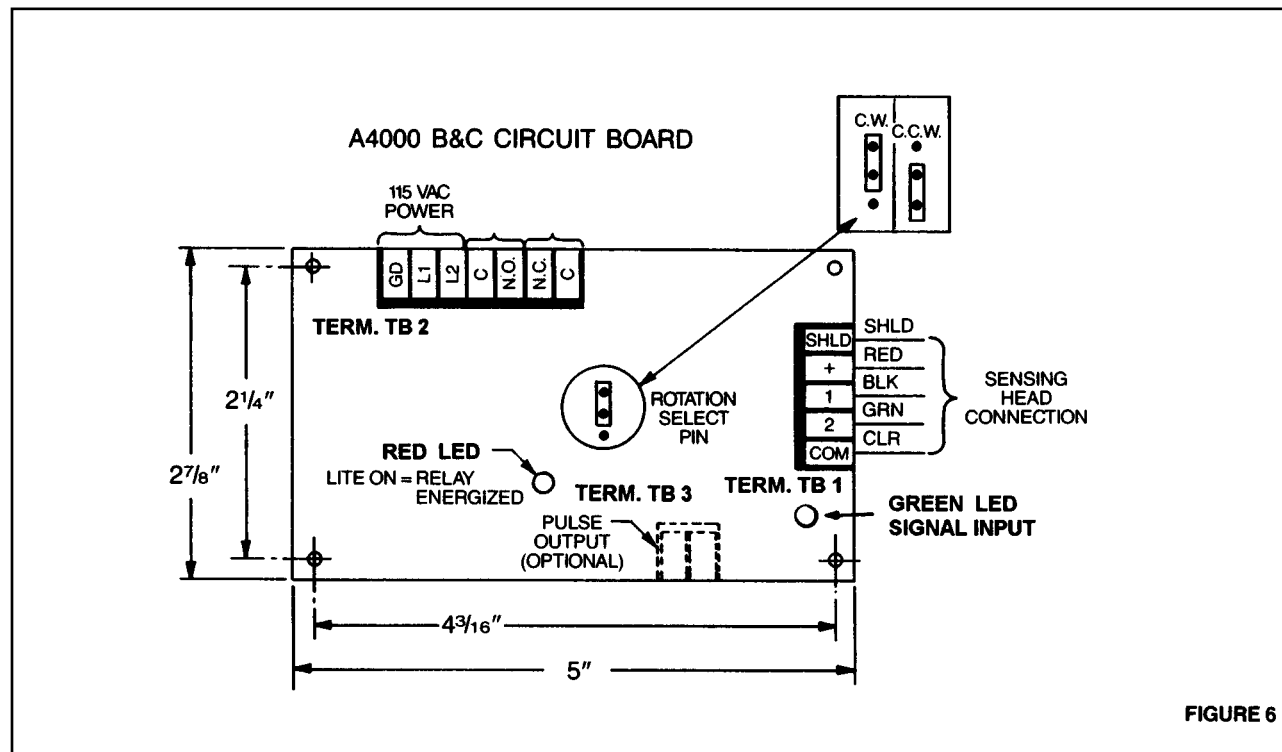
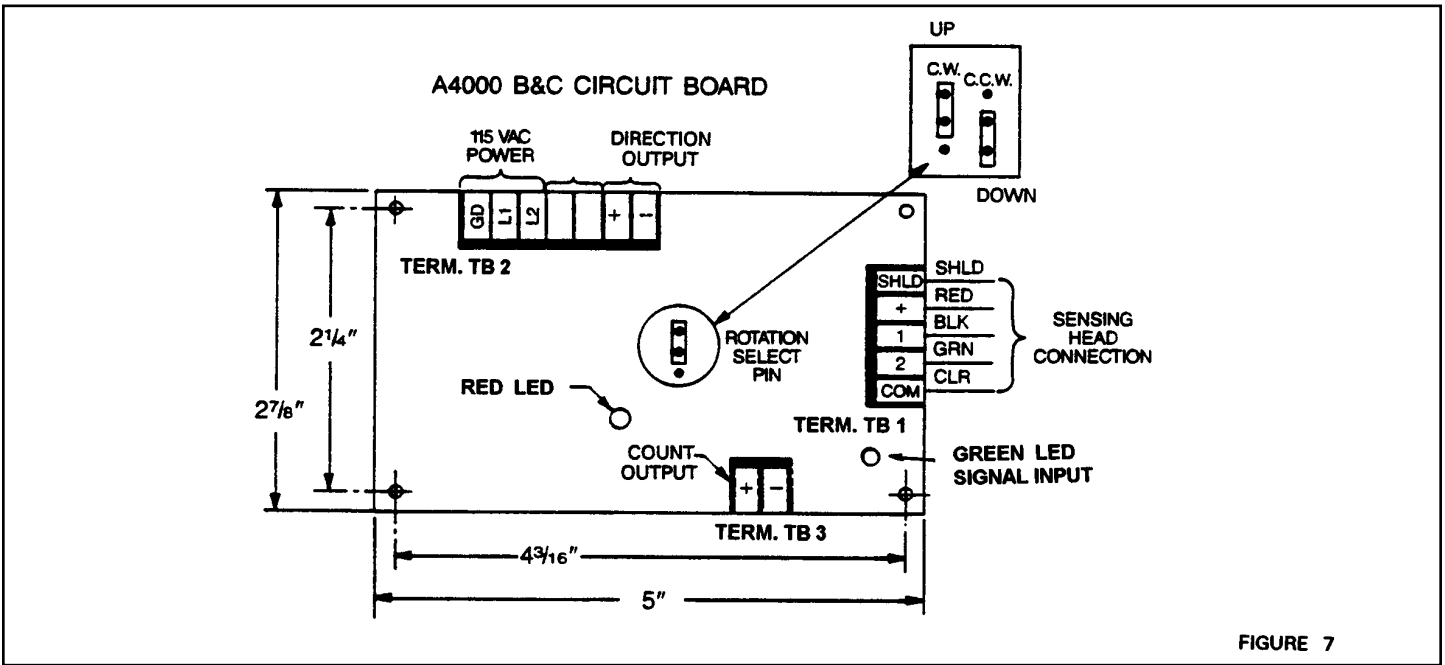

FIGURE 6
FIGURE 7
(see figure 6, page 8)
(see figure 6, page 8 and figure 7, page 9)
(see figure 7, page 9)
8.1 Pulse output interface. Terminal block TB3. (see figure 6, page 8)
(see figure 7, page 12)